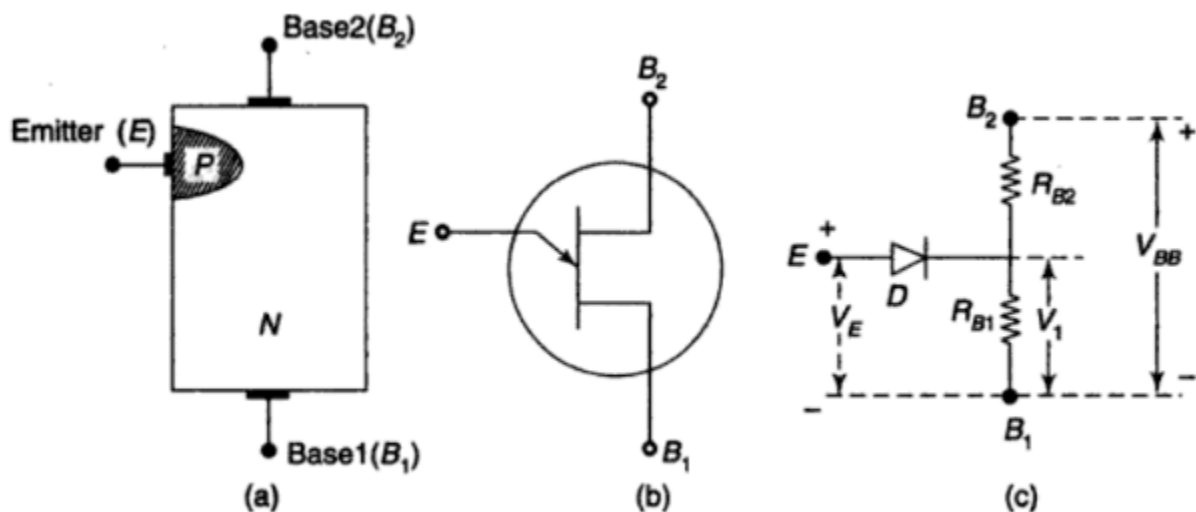

Fig. 17.1 UJT (a) Basic structure, (b) Circuit symbol, and (c) Equivalent circuit
The basic structure of UJT is shown in Fig. 17.1(a). It consists of a lightly doped N-type Silicon bar with a heavily doped P-type material alloyed to its one side closer to  $B_2$  for producing single PN junction. The circuit symbol of UJT is shown in Fig. 17.1(b). Here the emitter leg is drawn at an angle to the vertical and the arrow indicates the direction of the conventional current.
**Characteristics of UJT** Referring to Fig. 17.1(c), the interbase resistance between  $B_2$  and  $B_1$  of the silicon bar is  $R_{BB} = R_{B1} + R_{B2}$ . With emitter terminal open, if voltage  $V_{BB}$  is applied between the two bases, a voltage gradient is established along the N-type bar. The voltage drop across  $R_{B1}$  is given by  $V_1 = \eta V_{BB}$ , where the *intrinsic stand-off ratio*  $\eta = R_{B1}/(R_{B1} + R_{B2})$ . The typical value of  $\eta$  ranges from 0.56 to 0.75. This voltage  $V_1$  reverse biases the PN junction and emitter current is cut-off. But a small leakage current flows from  $B_2$  to emitter due to minority carriers. If a positive voltage  $V_E$  is applied to the emitter, the PN junction will remain reverse biased so long as  $V_E$  is less than  $V_1$ . If  $V_E$  exceeds  $V_1$  by the cutin voltage  $V_\gamma$ , the diode becomes forward biased. Under this condition, holes are injected into N-type bar. These holes are repelled by the terminal  $B_2$  and are attracted by the terminal  $B_1$ . Accumulation of holes in  $E$  to  $B_1$  region reduces the resistance in this section and hence emitter current  $I_E$  is increased and is limited by  $V_E$ . The device is now in the 'ON' state.